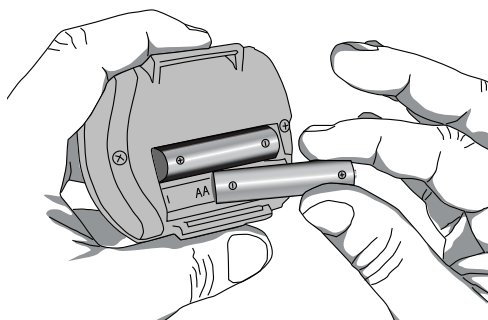

Figure 4: Insert Batteries
2. Insert 2 new AAA alkaline batteries (figure 4). Battery orientation is shown inside the battery compartment.